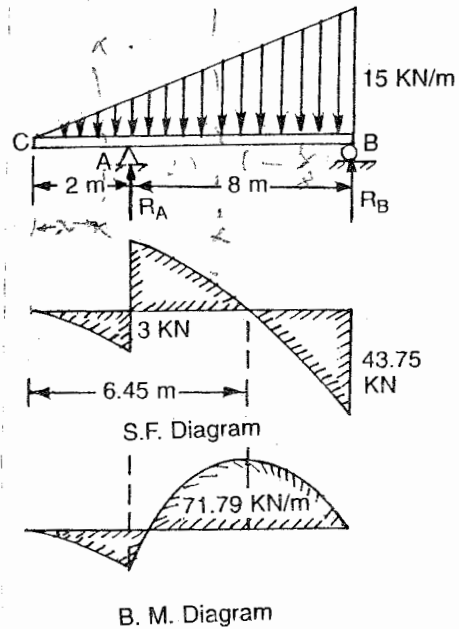

Fig. 5.51
A beam AB 10 metres long overhangs 2 metre to the left of support A and carries a uniformly varying load as shown in fig 5.51 Draw the B.M. and S.F. diagrams.
S. F. and B.M. diagrams are show in fig. 5.51